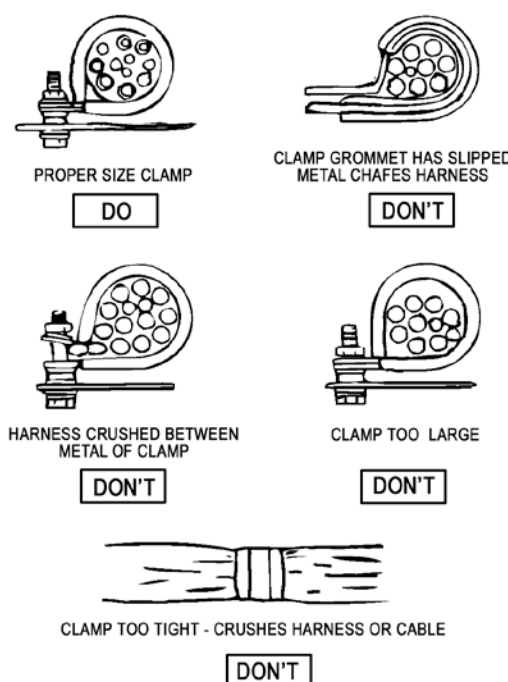

Figure 2-3. Typical clamp installation conditions.
13. Ensure you use the proper hardware to install harnesses and you are aware of the dos and don'ts in figure 2-3.